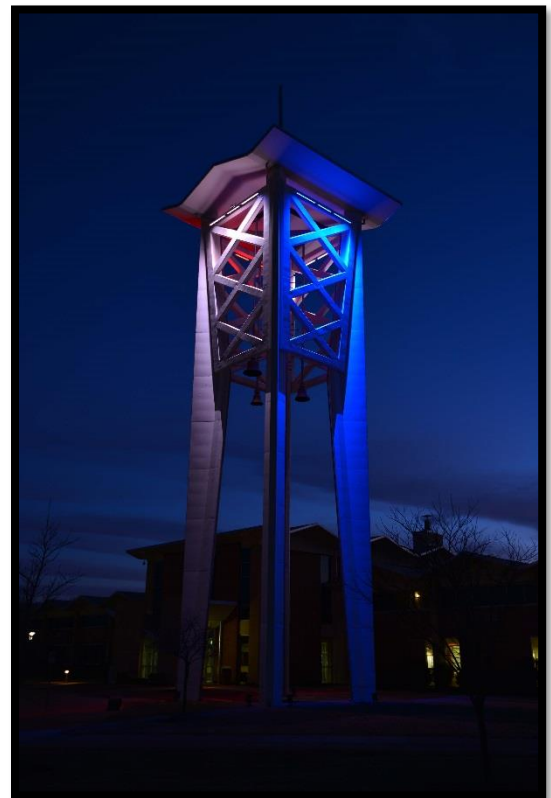

Figure 3: Dual Color Lighting on Bell Tower
*The applicant has indicated the lights will be static in nature and will not change within a 24 hour period. However, due to the LED nature of the lights, this single change could cast two or more colors on the tower at one time. The photos submitted by the applicant show examples of two colors on the tower at the same time (Figure 3).*